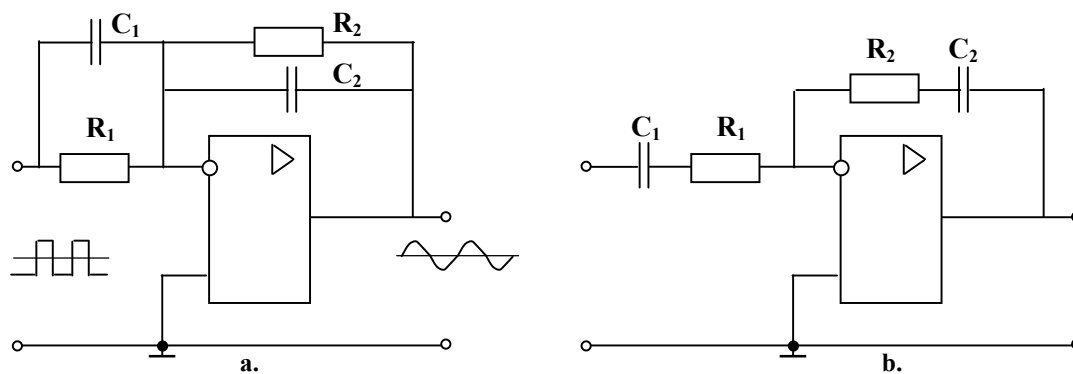

Fig. 2.40
**PID-circuits.** Two variants of proportional-integrated-differential circuit (*PID-regulator*, *PID-controller*) are shown in Fig. 2.40. They amplify the beginning and the end of the pulse signal. Circuit parameters are as follows:  $K = R_2 / R_1$ ,  $T_1 = R_1 C_1$ ,  $T_2 = R_2 C_2$ .